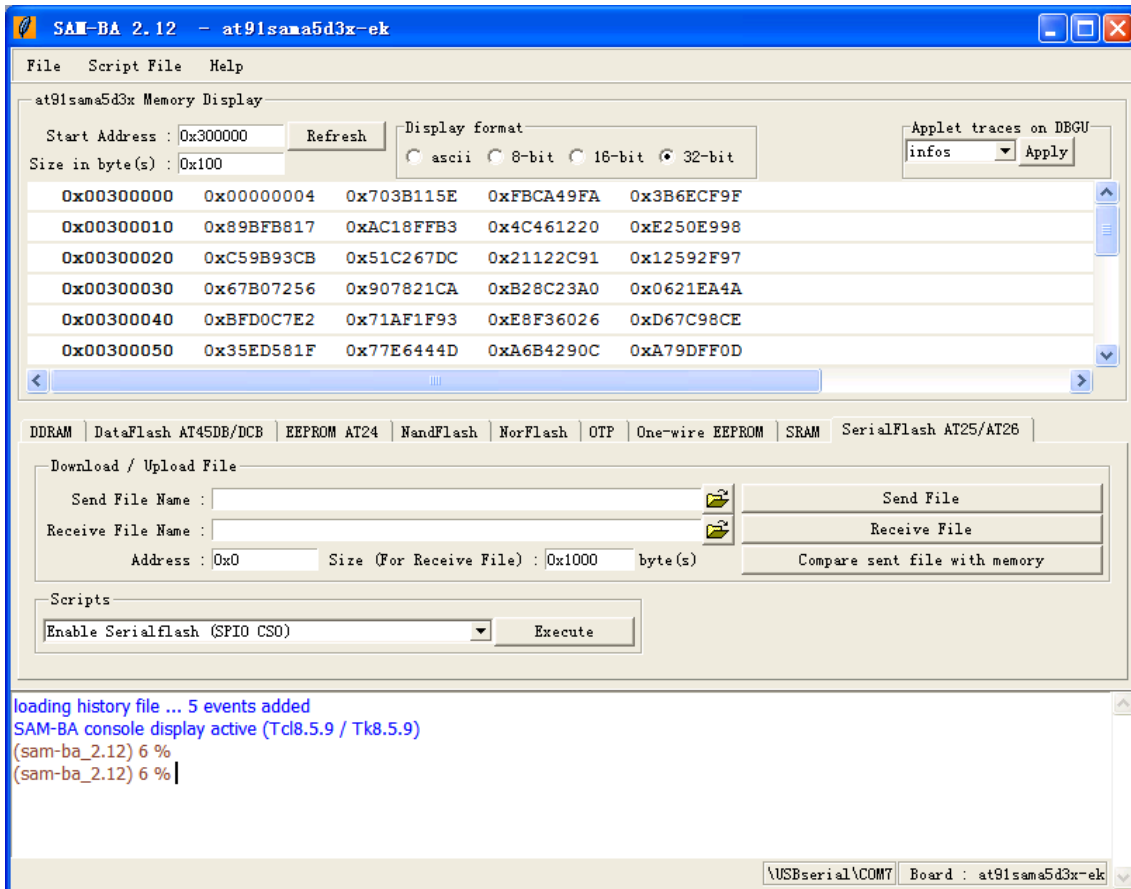

Figure 5.3.3 Burning Interface
- After clicking “**Connect**”, the interface as shown in figure 5.3.3.